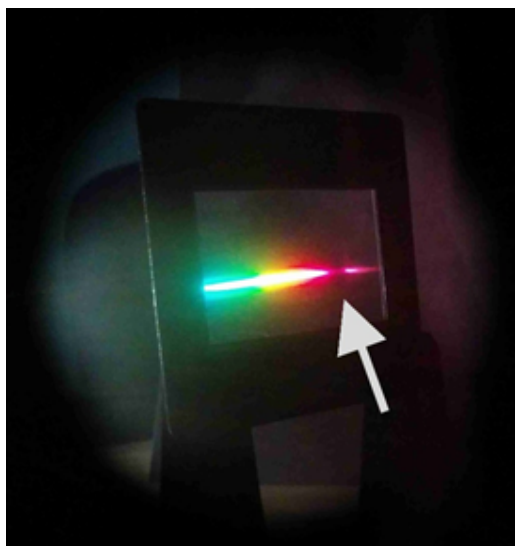

Fig. 12. Photo of the transmittance spectrum of the sample X. White arrow shows the transmittance minimum (a dark area in a rainbow strip).
4. If you rotate the sample clockwise at the right angle, you can see a dark region in the transmitted spectrum (fig. 12). This is the **transmittance minimum** corresponding to $m = 1$ in the Bragg-Snell law. When you rotate the sample, the wavelength of the transmittance minimum changes.